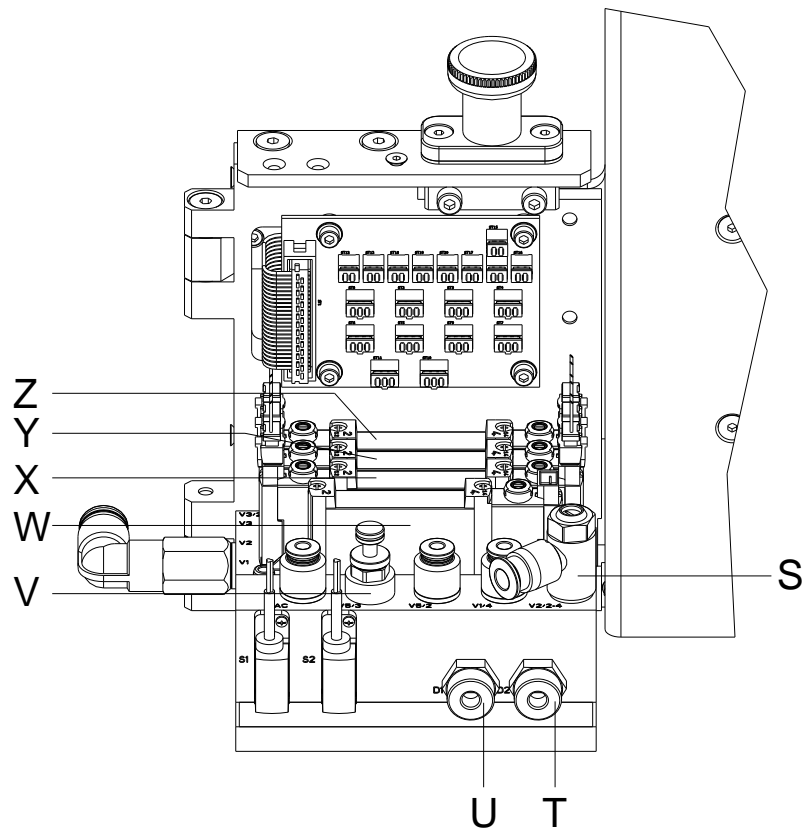

Figure 5
References to specific items in a figure are marked with letters. They are identified with parentheses in the text, e.g. (A). If no figure number is provided, letters in the text always refer to the graphic directly above the text. If a reference is made to another graphic, the figure number is specified, e.g. (A, in figure 5).